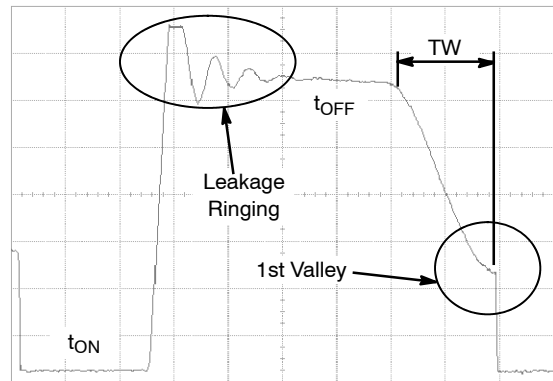
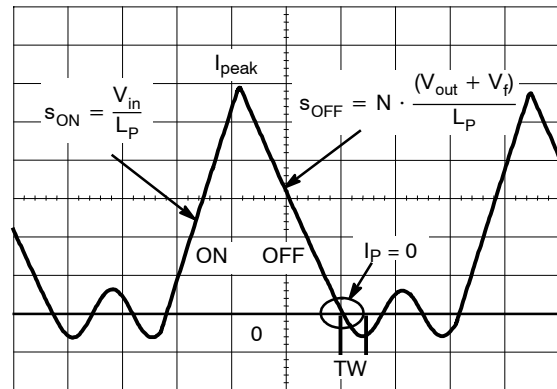
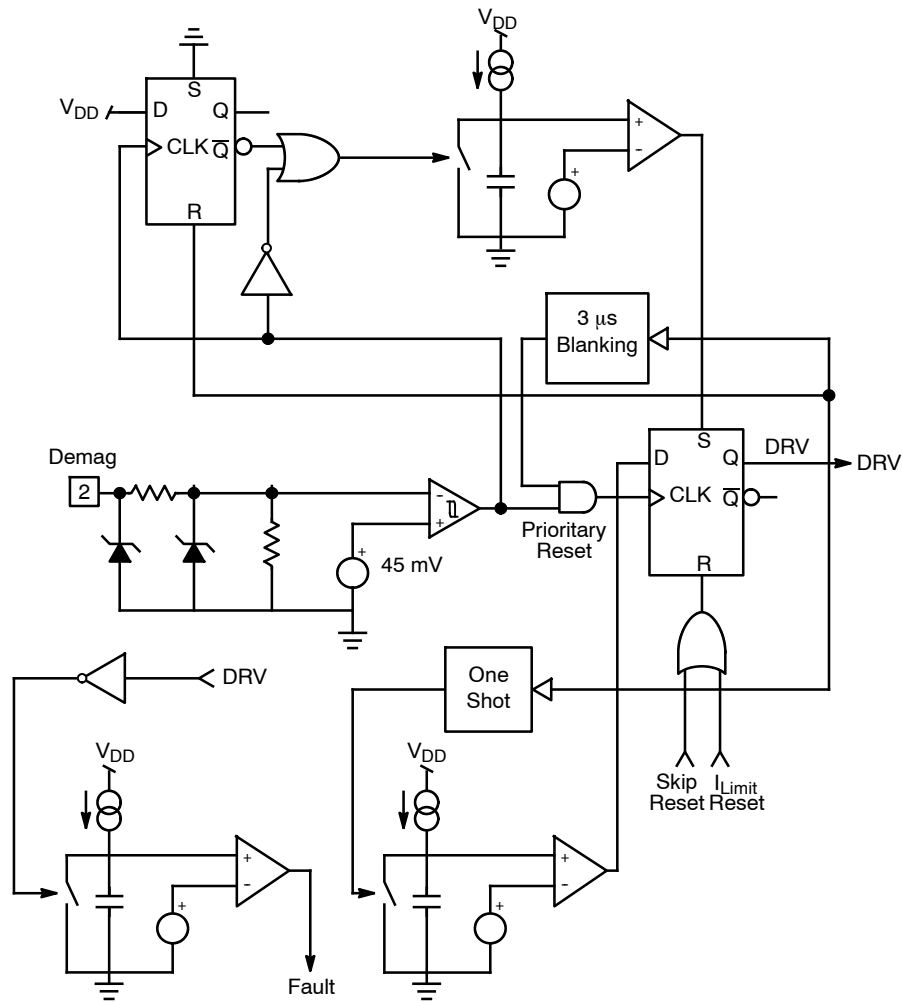
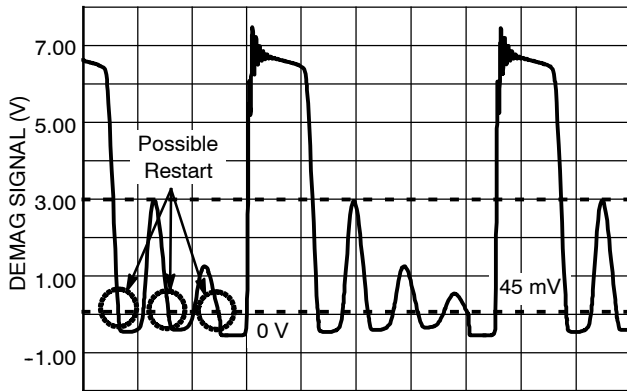

Figure 7. Typical Quasi-Resonance Waveform
Figure 8. Magnetizing Inductance Current Waveforms
Figure 9. Internal QR Architecture
Figure 10. Core Reset Detection is Done Through the Monitoring of a Dedicated Auxiliary Winding
Quasi-Resonance (QR) implies that the controller permanently monitors the transformer core flux activity and ensures Borderline Conduction Mode (BCM) operation. That is to say, when the switch closes, the current ramps up in the magnetizing inductance L_P until it reaches a setpoint imposed by the feedback loop. At this point, the power switch opens and the energy transfers from the primary side to the secondary (isolated) portion. The secondary diode is now biased and the output voltage “flies back” to the primary side, now demagnetizing the primary inductance L_P . When this current reaches zero, the transformer core is said to be “reset” ($\varphi = 0$). At this time, we can turn the MOSFET on again to create a new cycle. Figure 7 and 8 portray the typical waveforms with their associated captions. If a delay TW is introduced further to the core reset detection and before biasing the power MOSFET, the drain signal $V_{ds}(t)$ has the time to go through a minimum, also called valley. Therefore, when we will finally reactivate the power MOSFET, its drain-to-source voltage will be minimum, reducing capacitive losses but also its gate-charge value, since the Miller effect gets diminished at low V_{ds} .
The flux activity monitoring is actually made via an auxiliary winding, obeying the law, $V_{aux} = N \cdot d\varphi / dt$. Figure 9 describes how the detection is made, since the signal obtained on the auxiliary winding is centered to zero. Let's split the events with their associated circuitry:
The D flip-flop output is high, the MOSFET is enhanced and current grows-up in the primary winding. This is the *on* portion of Figure 8, left side of the triangle. When the driver output went high, its rising edge triggered a 8 μs timer. This 8 μs timer provides a true frequency clamp by driving the D-input of the flip-flop. Now, when the peak current reaches the level imposed by the feedback loop, a reset occurs and the flip-flop output comes low.
As one can see from Figure 7, a parasitic ringing takes place at the switch opening: this is the leakage inductance contribution. Unfortunately, this leakage can be detected as a core reset event if no precaution is taken. This explains the presence of the 3 μ s blanking timer that prevents any restart before the completion of this circuit. After leakage, the voltage applied over the primary winding is an image of the output voltage: this is the flyback level, or plateau level, equal to $N(V_{out} + V_f)$, with N the turn ratio between the primary and the secondary, V_{out} the output voltage and V_f the secondary diode forward drop. We are on the right portion of Figure 8, OFF portion, the secondary current ramping down. If we now observe the voltage on the auxiliary winding, we will see something like what Figure 10 shows where the plateau lasts until the core is reset. At this reset event, a natural ringing takes place whose amplitude depends on the ratio N and V_{out} . A comparator observes this activity and detects when the voltage drops below ground, actually below 45 mV typically. In Figure 9, one can see the ESD protection arrangement which introduces a small capacitive component to Pin 3 input. This capacitive component associated with the demagnetization resistor can thus realize the necessary above TW delay.
Therefore, we can see that for various switching frequency values (dependent on the input condition if the output demand is fixed), the converter will permanently adjust the peak current I_P to keep the output power constant. By manipulating the slope definitions S_{ON} and S_{OFF} (see Figure 8), we can show that the peak current is defined by: